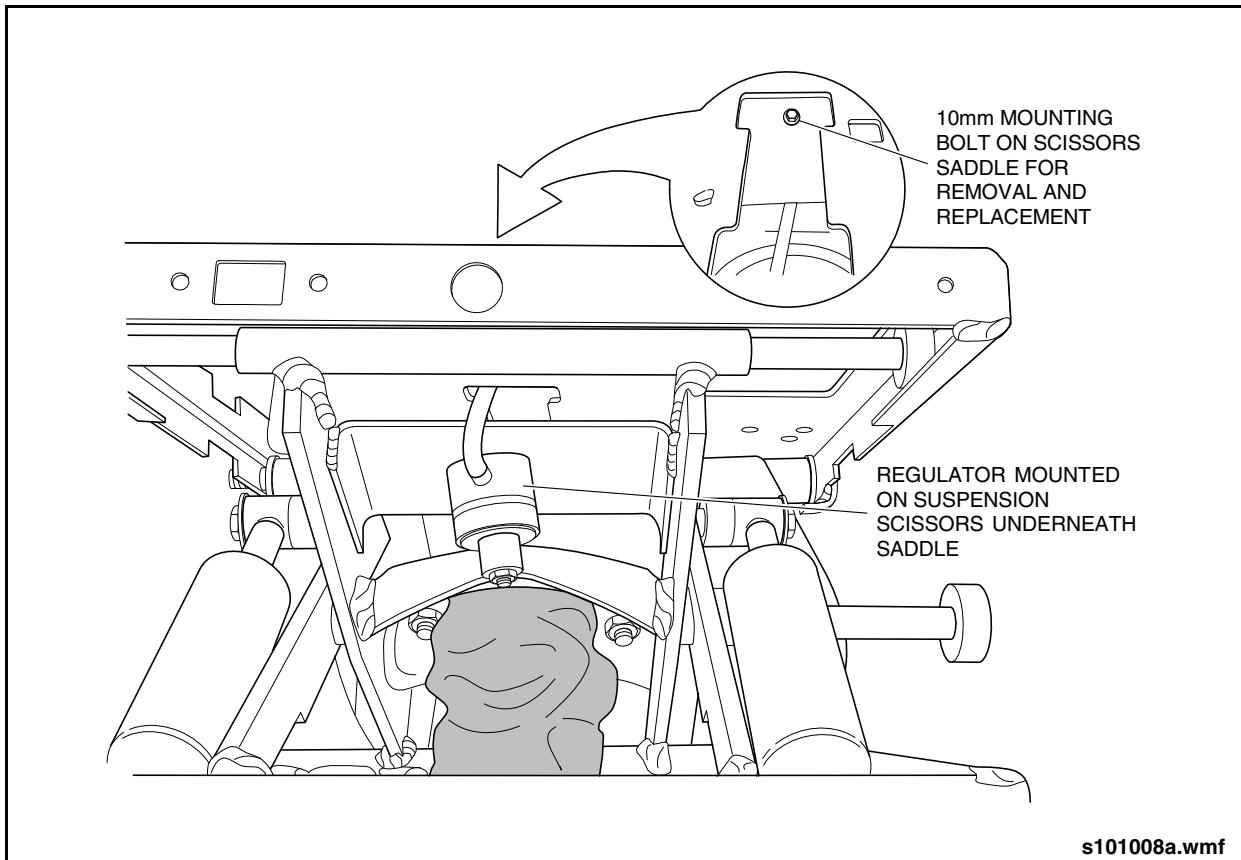

Fig. 17-10: Scissors Cross Bar Bolt
4. Locate and remove 10 mm bolt on scissors cross bar and remove. See "Fig. 17-10: Scissors Cross Bar Bolt" on page 10.